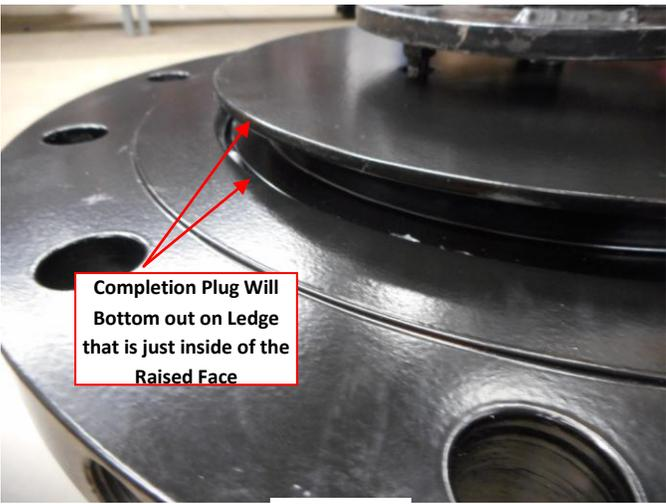

Fig. 3
Step 3. Press the Completion plug into the Tapping Sleeve until in bottoms out on the Flange Ledge (See Fig 3) Note: Completion plug must be held in place until set screws are fully driven in.